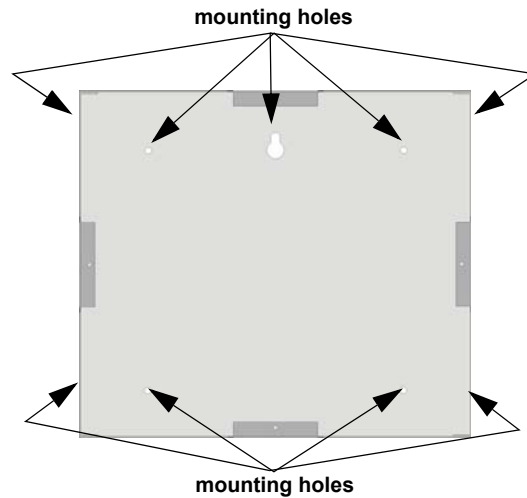

Figure 2 Backbox Mounting Holes
2. Before you complete the FIK-RA100 installation, mount the backbox using any of the mounting holes as shown in Figure 2.